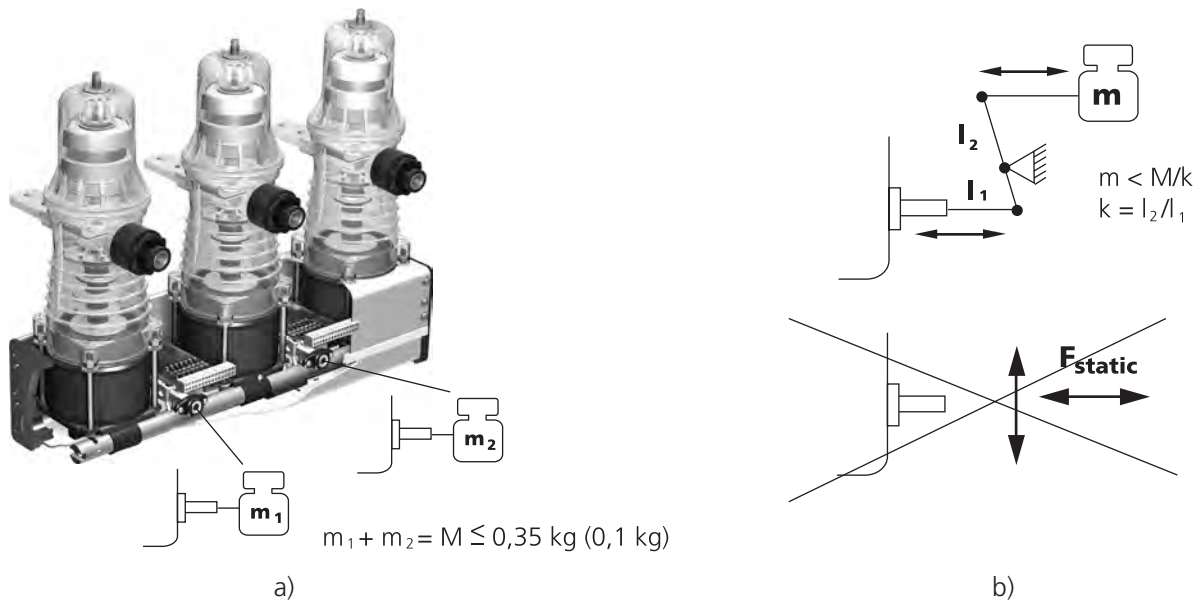

Figure 52
- If the interlocking mechanism is attached to one of the interlocking pins, the weight of the directly attached movable part to the interlocking pins shall not exceed 0.35 kg. If both interlocking pins are used, the sum of the attached weights shall not exceed 0.35 kg (Figure 52).
- For manual-emergency-tripping a force of up to 250 N may be applied to the interlocking pins. But no static force shall be applied (Figure 52).